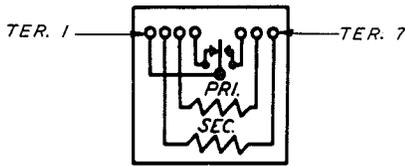

FIG. 19 - WINDING AND SPRING TERMINAL ARRANGEMENT AS VIEWED FROM THE REAR (TERMINAL SIDE)- 206, 227 AND 231 TYPE RELAYS
2.17 As viewed from the front of the relay the contacts are numbered from left to right. The left-hand contact is numbered 1, the armature 2 and the right-hand contact 3 except on relays having a back contact only, in which case the armature is indicated by 1 and the back contact by 2. Where it is required to make contact with the contact or winding terminals from the rear or terminal side, the designation TER followed by the terminal number is specified. Facing the rear of the relay, the terminals are numbered consecutively from left to right as shown in Fig. 19.